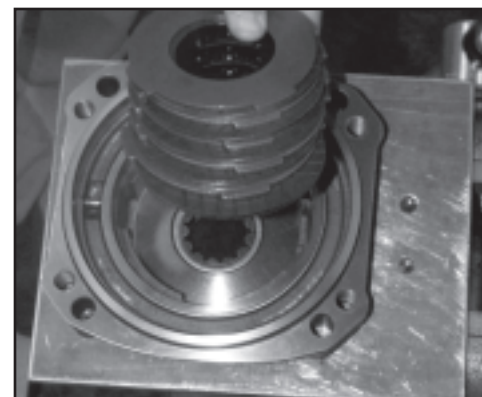

Figure D10
10. Note arrangement of friction discs and separator plates. There should be five of each in alternating order with a friction disc first in the bottom of the case and friction plate will be last. Separator plate on top. SEE FIGURE D10